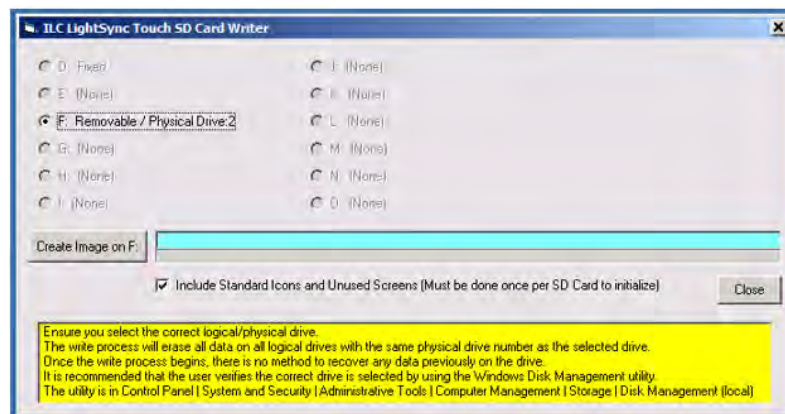

Figure 9 SD Card Writer Screen
1. From the title bar, select “Program”, and then “Compile SD Card Images” to convert the programming images. Once the process has been completed, a window as shown in figure 9 will pop up.
3. From the title bar select “Program”, and then “Write to SD Card”. The ILC LightSync Touch SD Card Writer program screen will open as shown in Figure 9.
4. Select the drive letter for the SD card. Figure 9 shows “F: Removable” selected.